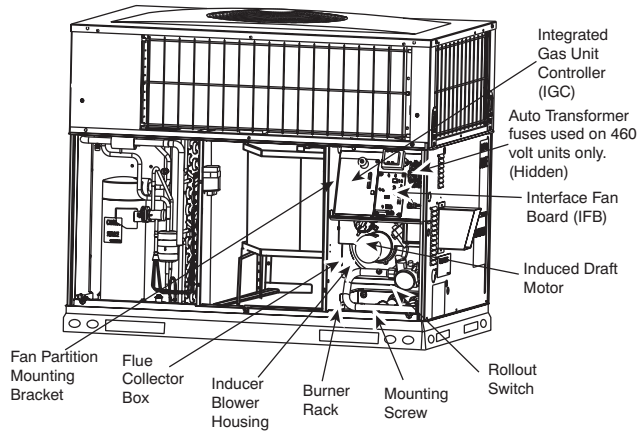

Fig. 33 – Blower Housing and Flue Collector Box
2. Remove the 11 screws holding the flue collector box cover (See Fig. 33) to the heat exchanger assembly. Inspect the heat exchangers.
Unit is equipped with a direct spark ignition 100 percent lockout system. Ignition module (IGC) is located in the control box (See Fig. 33). Module contains a self-diagnostic LED. During servicing, refer to label diagram or Table 14 in these instructions for LED interpretation.
5. Remove fan partition mounting bracket (2 screws located on the left side of control compartment on the fan partition panel). Slide bracket forward, bottom first, to remove. (See Fig. 33.)
7. Remove the mounting screw that attaches the burner rack to the unit base (See Fig. 33).
8. Partially slide the burner rack out of the unit (see Fig. 33 and 36). Remove ignitor and sensor wires at the burner assembly. Remove wires to rollout switch.
9. Slide the burner rack out of the unit (See Fig. 33 and 36).